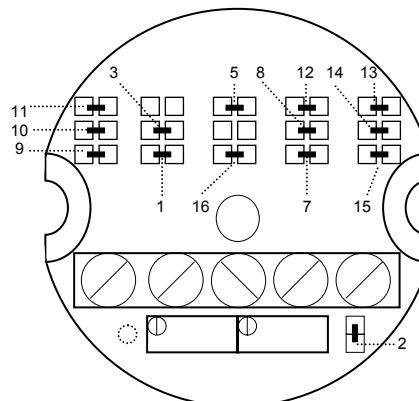

Fig. 6
The INPUT and RANGE of the 405000 transmitter can be reconfigured by opening or soldering internal jumpers (**Fig. 6**). J-type thermocouples (Fe-Const) have 4 ranges, K-type thermocouples (NiCr-NiAl) have 3 ranges, and Pt 100 RTDs have 40 ranges. See Table of ranges in next section.
- 3) Select RTD or Thermocouple via Jumper No. 2 (**Fig. 6**), located between the terminals. For **RTD (Pt 100)** inputs, open Jumper No.2 and for **Thermocouple (T/C)** inputs close Jumper No.2
- 4) For specific range configurations and Jumper locations, refer to the Table in the next section noting which jumpers are to be opened or soldered. A black dot indicates that that jumper must be soldered (refer to **Fig. 6** below for Jumper locations).